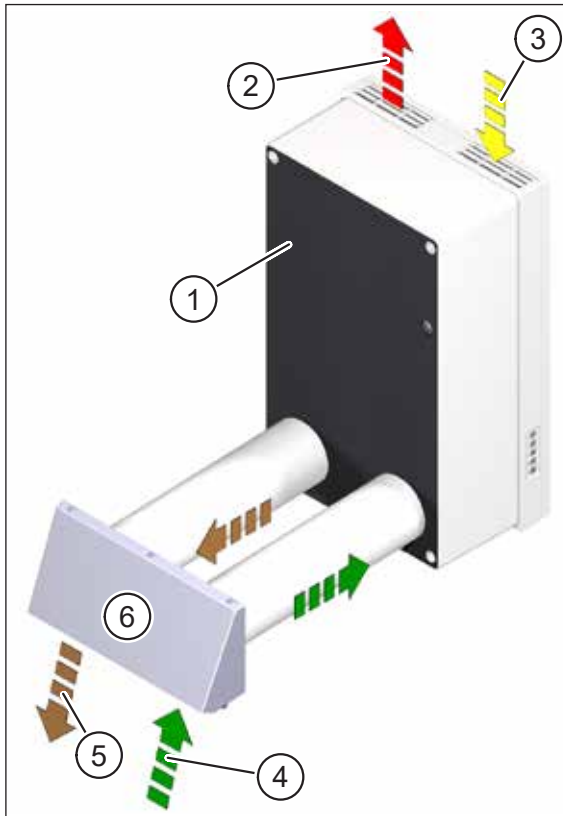
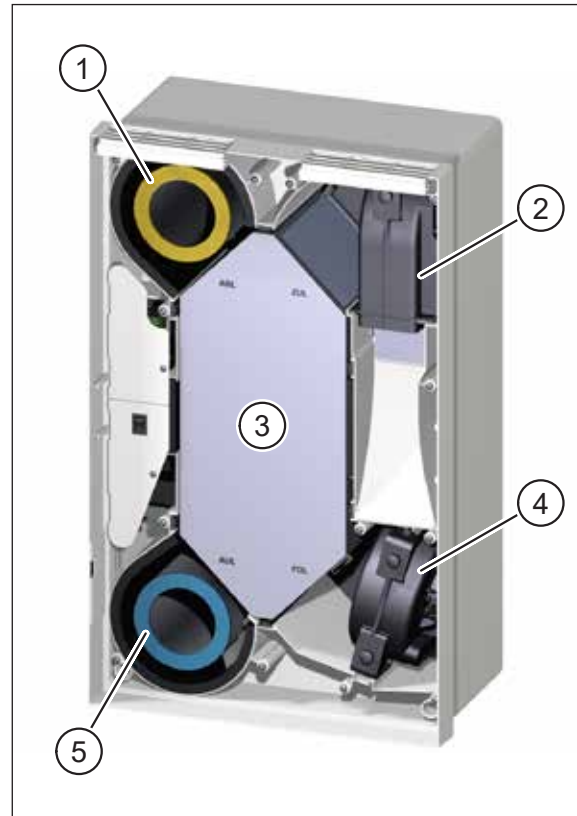

Fig. 9: How the ventilation unit works
Fig. 10: Components for air exchange
Item in Fig. 9	Designation
Item in Fig. 10	Designation
The ventilation unit operates continuously, transports outdoor air and extract air at the same time and guides and filters the outdoor air and extract air separately. The self-regulating fans (which ensure a constant volumetric flow rate) are arranged on the supply air and exhaust air sides. The supply air fan (item 2 in Fig. 10) transports outdoor air (item 4 in Fig. 9) through the outdoor air filter (item 5 in Fig. 10) and cross-counterflow plate heat exchanger (item 3 in Fig. 10) into the interior as supply air (item 2 in Fig. 9). The exhaust air fan (item 4 in Fig. 10) extracts the extract air (item 3 in Fig. 9) from the interior. In the extract air filter (item 1 in Fig. 10), the extract air is cleaned, guided through the cross-counterflow plate heat exchanger and carried outside as exhaust air (item 5 in Fig. 9). The supply air and exhaust air fans each transport the same volume of air. The pressure in the interior remains practically constant.